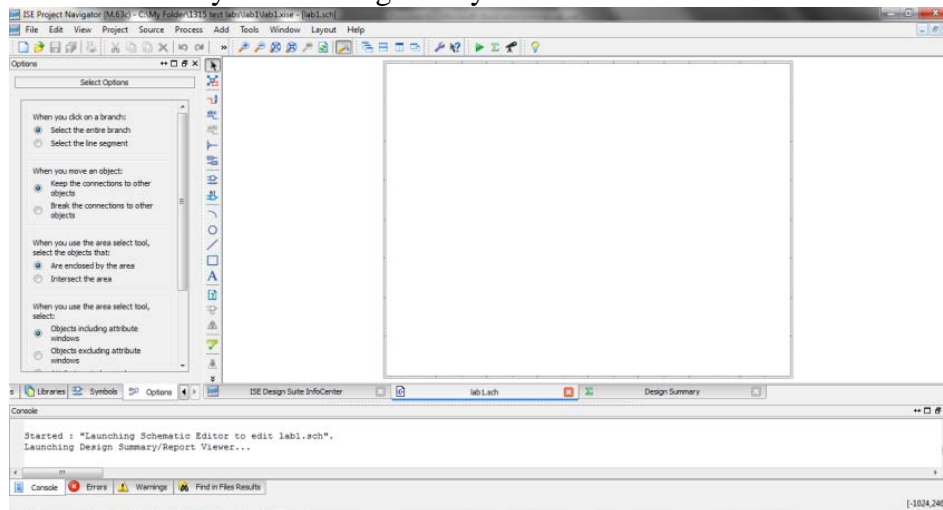

Figure 1: view of empty schematic lab1.sch
Step 5: You will then be presented with the screen seen in figure 1. Take a moment to mouse over the tools on the left of the lab1.sch and note their function. Click on the **Add Symbol** button . This will allow you to add a gate to your schematic.